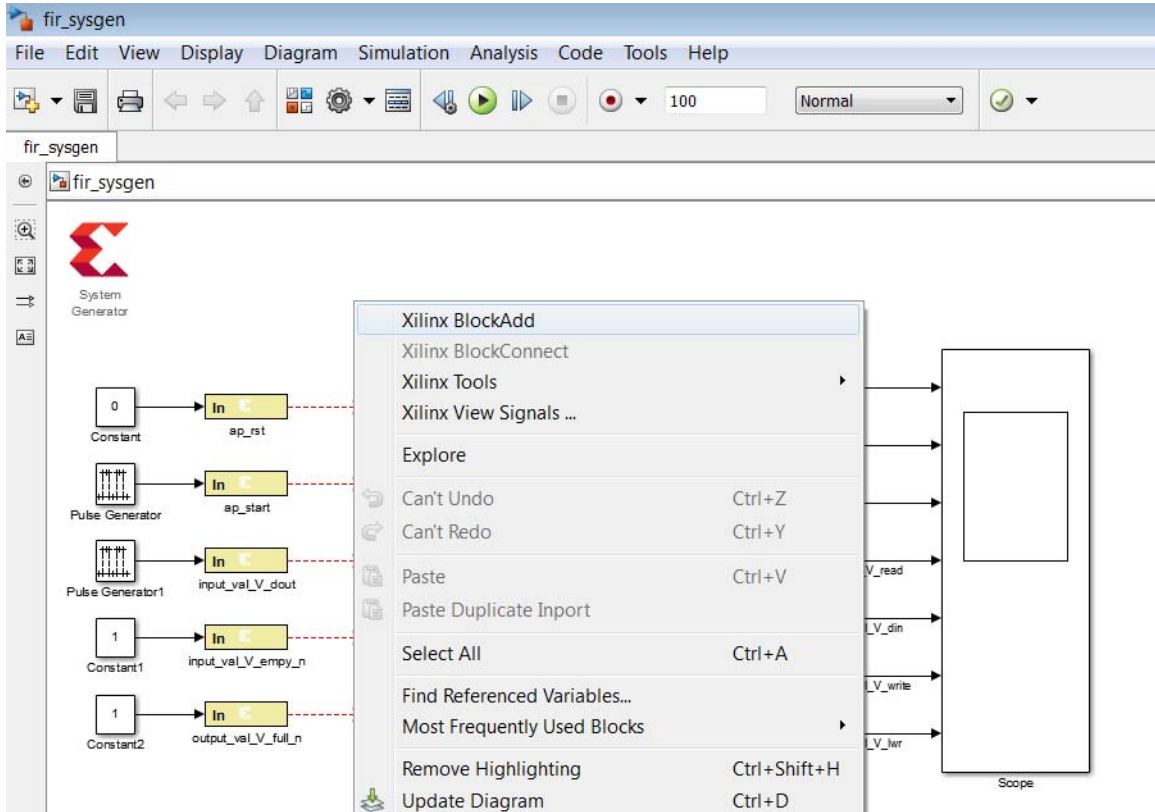

Figure 11-5: Adding a New Block
- Right-click in the canvas and select **Xilinx BlockAdd**, as shown in Figure 11-5.